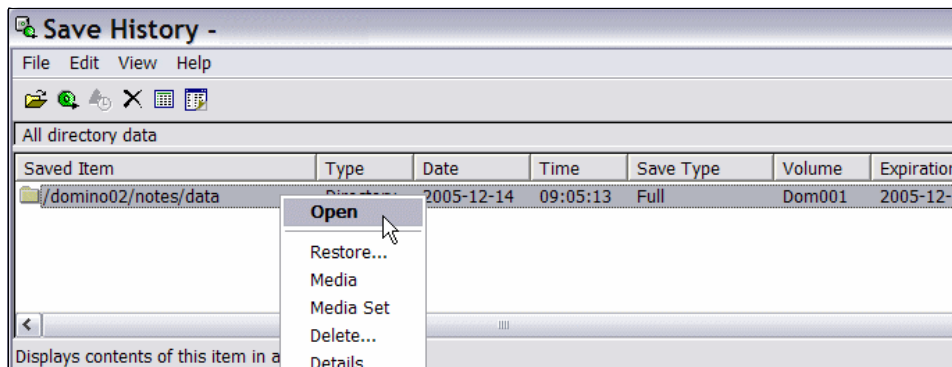

Figure 5-85 Restore Domino data with BRMS, Save History - open file for restore
5. Right-click the relevant saved record item and select **Open**, as shown in Figure 5-85.